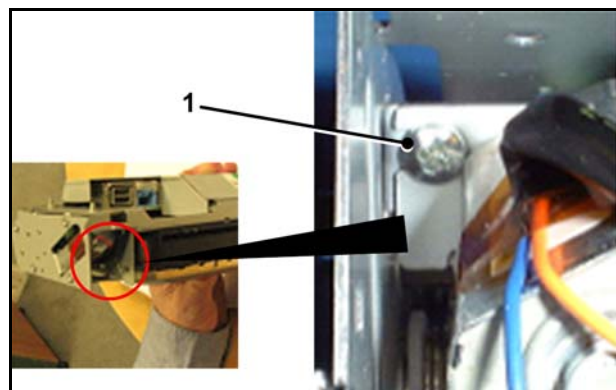
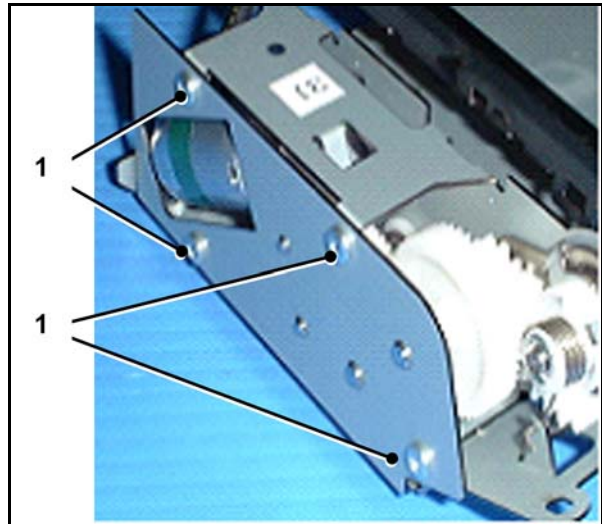

Figure 23
Figure 24
30. Put the side cover back into its position. Make sure that the screw (1) engages with the slot in the bracket (see Figure 23).
31. Install the four M2 screws (1) (see Figure 24). Torque the four M2 screws to 0.8 Nm. Tighten the M2 screw to 0.8 Nm (see Figure 23 item 1).